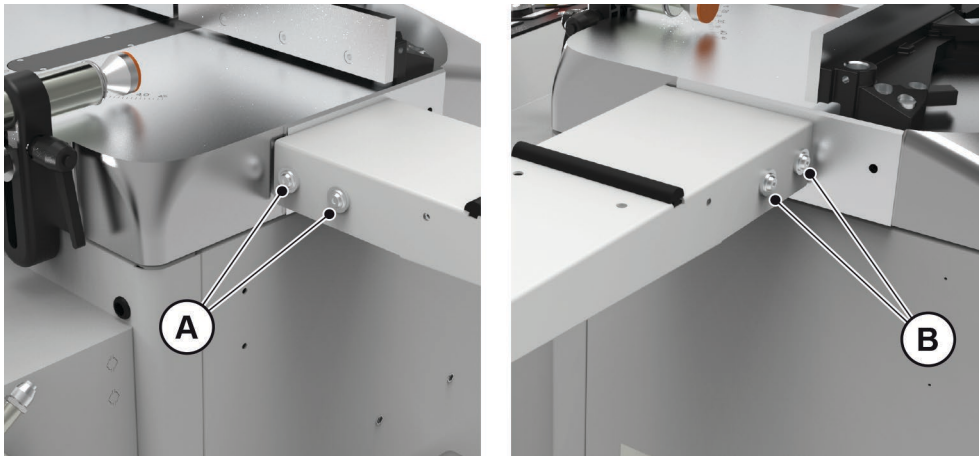

Fig. 05-05
- Remove the profile support by adjusting the 2 front screws "A" (**Fig. 05-05**) and the 2 rear screws "B" (**Fig. 05-05**).